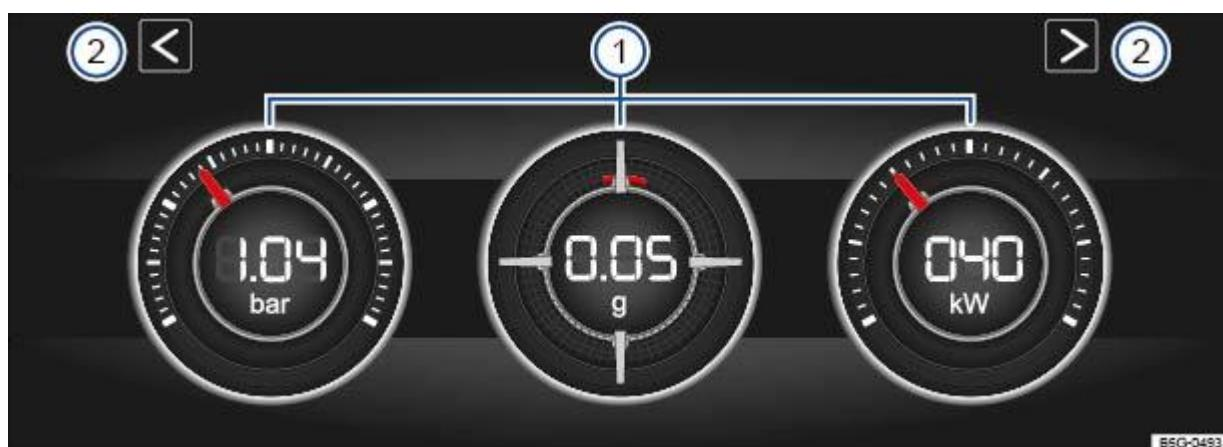

Fig. 23 On the Infotainment system display: performance monitor.
Key to ⇒ Fig. 23 :
If you would like to switch between the performance monitor and the lap timer ⇒ Lap timer , touch one of the arrow buttons on the left and right above the instruments ⇒ Fig. 23 ②.
The display can show a maximum of three instruments at the same time. Each instrument can be selected for each display area ⇒ Fig. 23 ① (left, middle, right).
Charge pressure display: the charge pressure display ⇒ Fig. 23 ① (left) shows the pressure in the charge air system between the turbocharger and engine (in the unit bar). The further to the right the needle on the scale, the higher the engine power output.
Accelerometer (G-meter): the accelerometer (G-meter) ⇒ Fig. 23 ① (centre) shows the acceleration value in the centre (in the unit g). The red marking in the grid-type area shows the acceleration level and the direction of the acting force (in the opposite direction according to physical laws). If you drive to the left, for example, the red marking will move in the right area of the instrument (and vice versa). If you accelerate, the red marking will move down. If you brake, the red marking will move up. The level of acceleration is indicated by the position of the red marking which moves outwards. If the acceleration increases, the red marking will move away from the centre area.
Power display: the power display ⇒ Fig. 23 ① (right) shows the current engine power output as a digital value and on the surrounding scale (in kW).
Touch one of the arrow buttons ⇒ Fig. 23 ② in the performance monitor to change to the lap timer.
You can change between the lap timer and performance monitor at any time using the arrow buttons ⇒ Fig. 23 ② and ⇒ Fig. 24 .